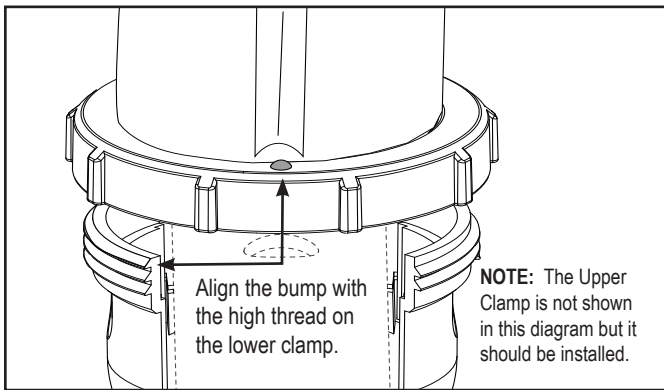

Figure 4. Locking Ring Alignment
7. Position the locking ring in proper alignment, making sure the bump aligns with the top thread (see Figure 4).